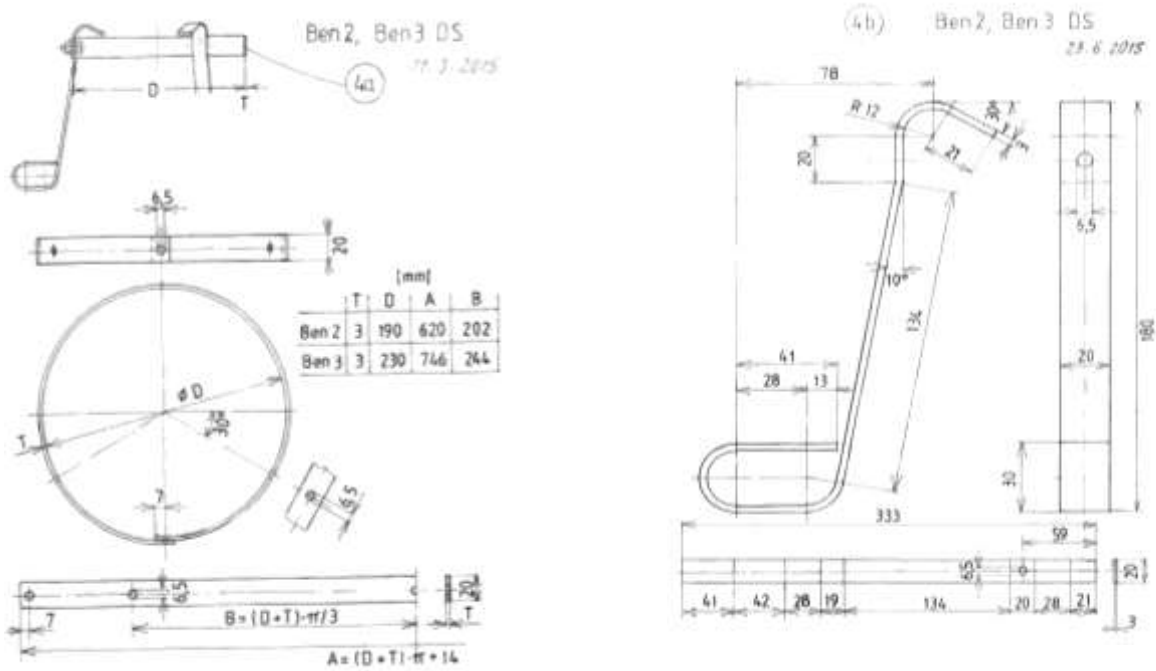

Fig. 4. Details Ben 2 and Ben 3: Tripod Ring (4a) and Tripod Leg (4b) (April 2015)
Fig. 4. Details Ben 2 and Ben 3: Tripod (4); **a tripod made of round steel, see Annex E) is recommended. Annex E) contains the documentation about this tripod and its production**